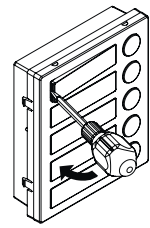

Fig. 5
- Move the screwdriver to the left as shown in **Fig. 5** to extract the card name holder;